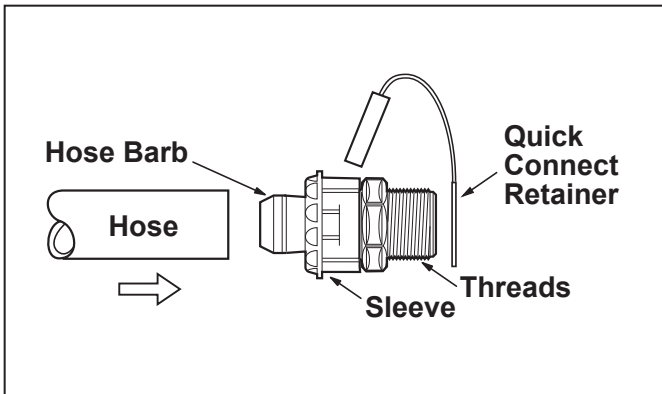

Figure 5. Install the Hose onto the Quick Disconnect
1. Mount the pump using two (2) concrete expansion anchors to ensure stability.
4. Push the hose onto the quick connect until it is flush against the hose barb base. See Figure 5.